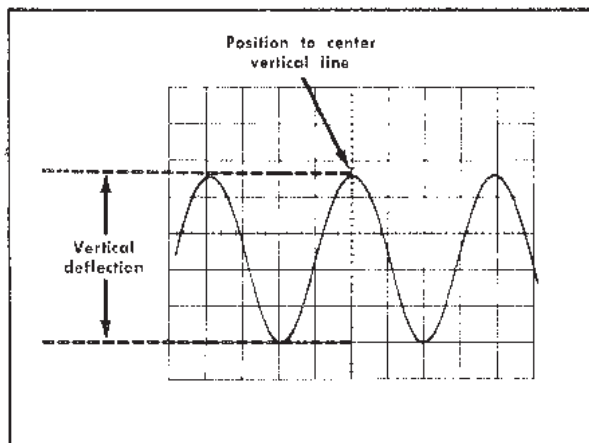

Fig. 1-3. Measuring peak-to-peak voltage of a waveform.
4. Turn the vertical Position control so that the lower portion of the waveform coincides with one of the graticule lines below the center horizontal line, and the top of the waveform is in the viewing area. Move the display with the horizontal Position control so that one of the upper peaks is aligned with the center vertical reference line (see Fig. 1-3).